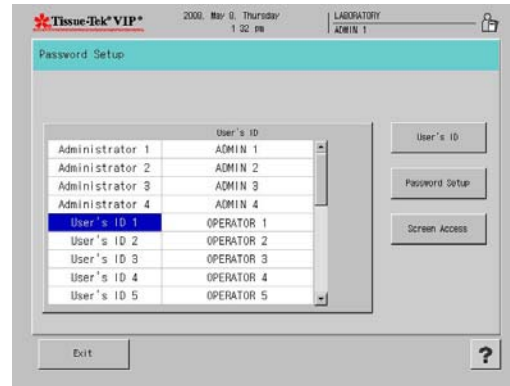

Figure 3-H
- The Password Setup screen displays (Figure 3-H). This screen allows the operator to create user IDs (user ID is the name that appears on all screens when a given user is logged in) and passwords, grant or deny screen access and modify existing users.